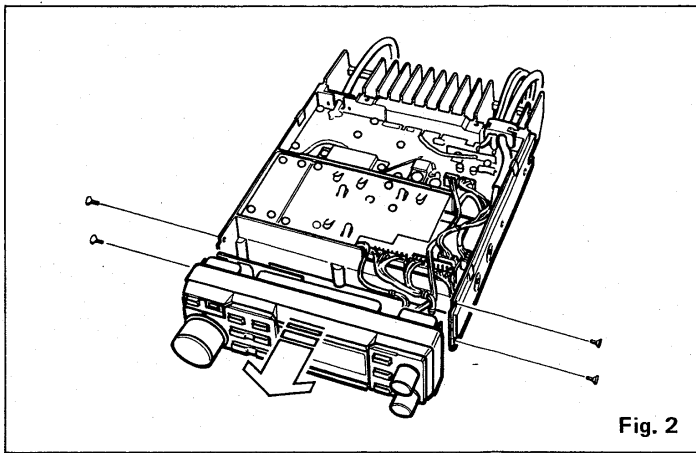

Fig. 2
2) Unscrew the four screws on the left and right sides of the front panel. Remove the front panel. Be sure not to cut or damage any wires during removal. See Fig. 2.